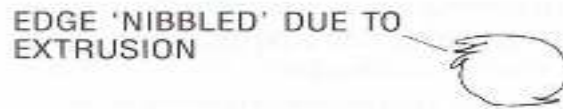

Fig. 2.4 **Failure patterns**
- The condition of an O-ring after disassembly may provide evidence of the cause of failure. A ring that has been extruded will show the effects of nibbling along the i.d. as shown in Fig. 2.4 **Failure patterns**